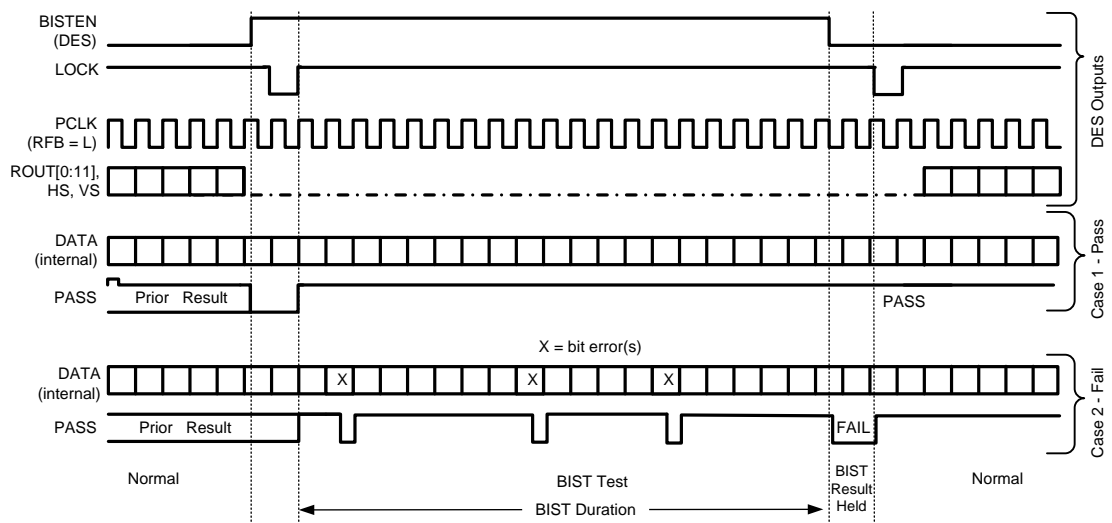

Figure 19. BIST Timing Diagram
Step 4. The link returns to normal operation after the deserializer BISTEN pin is low. Figure 19 shows the waveform diagram of a typical BIST test for two cases. Case 1 is error free, and Case 2 shows one with multiple errors. In most cases, it is difficult to generate errors due to the robustness of the link (differential data transmission etc.), thus they may be introduced by greatly extending the cable length, faulting the interconnect, or by reducing signal condition enhancements (Rx equalization).